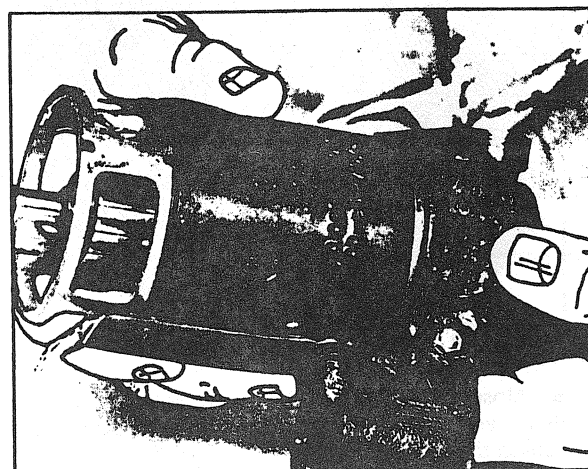

FIGURE 7
- Separate field frame and drive housing, remove the profile rubber gasket from the drive housing (Fig. 7).